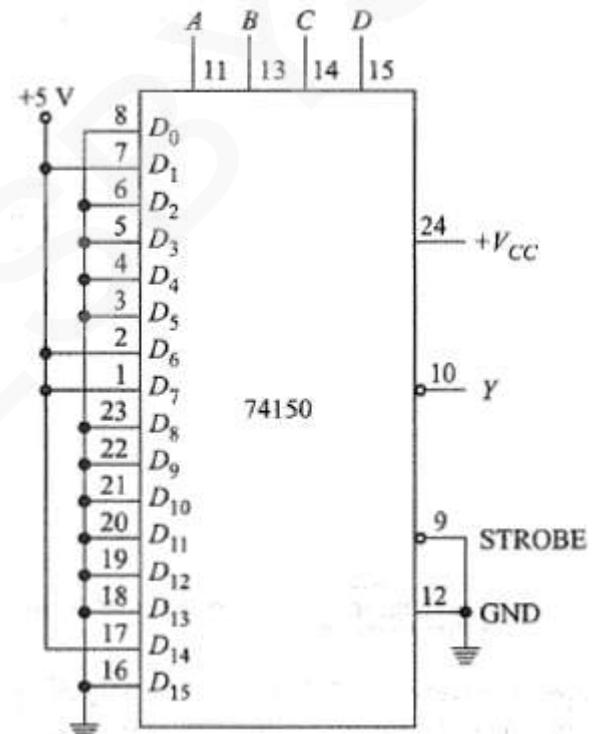

Figure 4.4:Using a 74150 for multiplexer logic
- D_0 is grounded, D_1 is connected to +5V, D_2 is grounded and so forth (Figure 4.4).